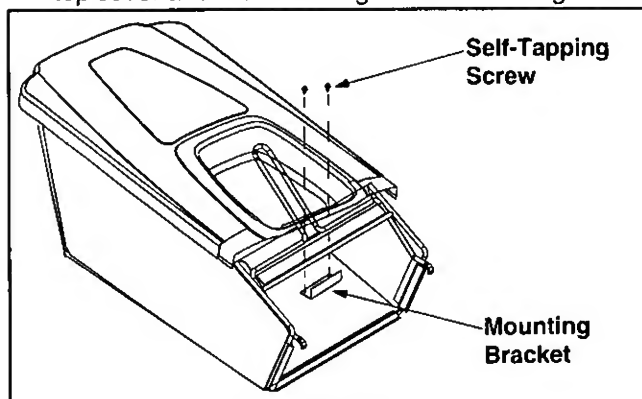

Figure 9
- Place the mounting bracket under the front of the handle, with the flat side of the bracket facing front. Insert the two self-tapping screws through the hard top cover and the mounting bracket. See Figure 9.